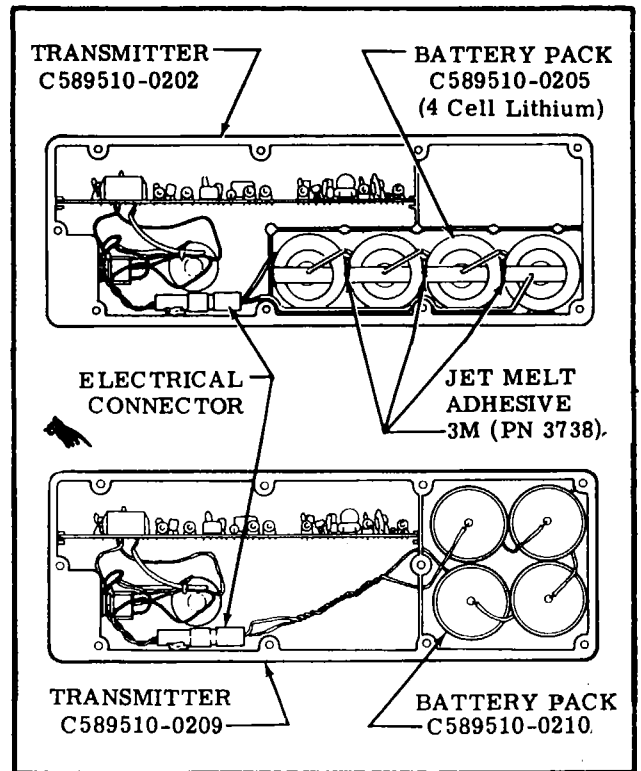

Figure 16-17. Lithium 4 Cell Battery Pack Installations
16-108. REMOVAL AND INSTALLATION OF LITHIUM FOUR (4) CELL BATTERY-PACK. (Refer to figure 16-17.)
- d. Place new battery-pack in the transmitter with four batteries as shown in the case in figure 16-17.
- e. Connect the electrical connector as shown in figure 16-17.